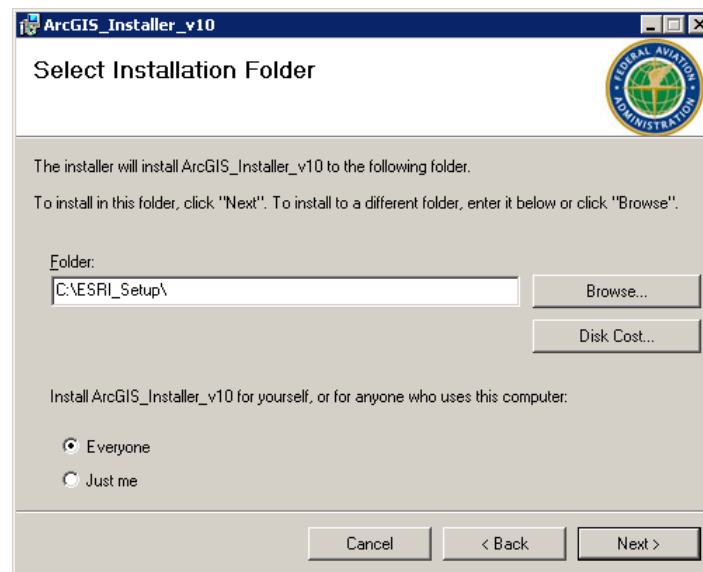

Figure 2-12 ArcGIS Setup Wizard – Select Installation Folder
4. Select the installation folder – accept the default location (Figure 2-12).